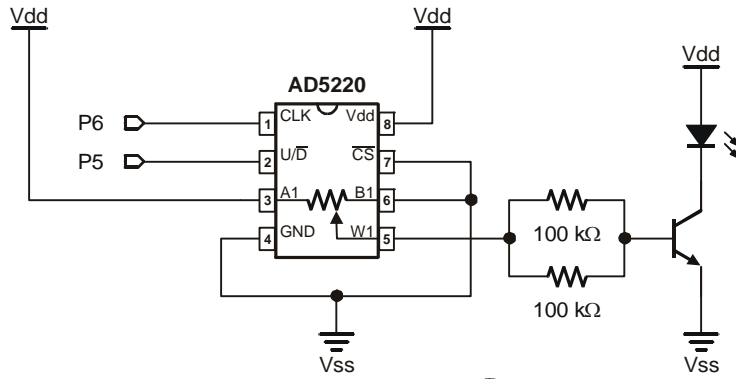
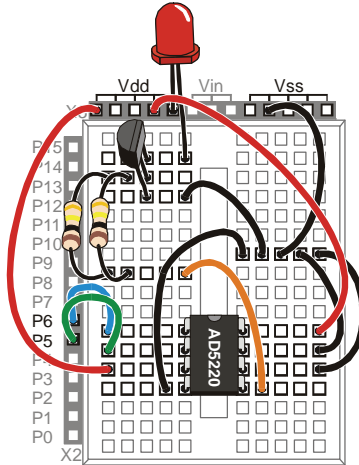

Figure 9-6
Figure 9-7
Figure 9-6 shows a circuit schematic with the digital potentiometer used in place of a manual potentiometer, and Figure 9-7 shows a wiring diagram for the circuit. The BASIC Stamp can control the digital potentiometer by issuing control signals to P5 and P6.
- ✓ Build the circuit shown in Figure 9-6 and Figure 9-7.